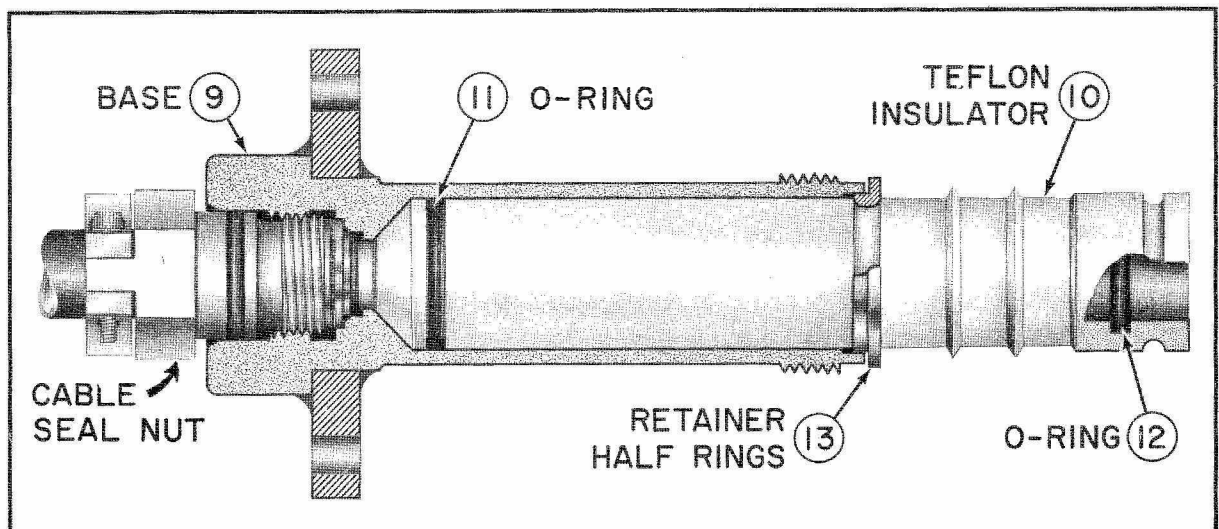
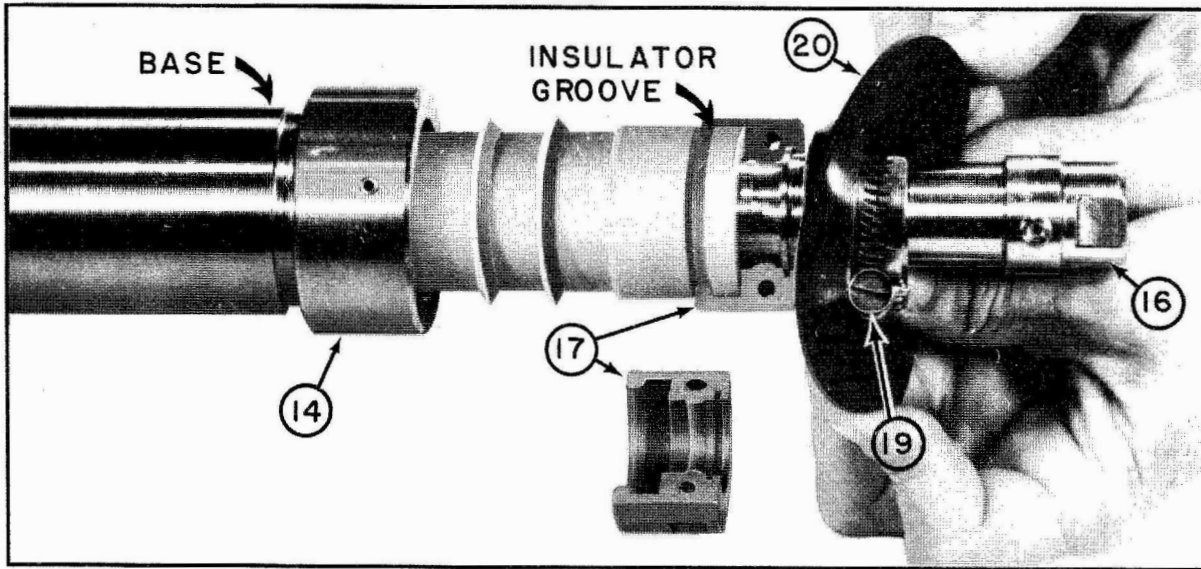

Figure 5-12e. Insulator Installed in Base
Figure 5-12f. Drip Shield and Center Conductor Installed
Step 4. - Screw lower collar, piece 14, onto the base, but do not tighten. Expand drip shield clamp, piece 19, by loosening the screw and place it over drip shield, piece 20. Place the drip shield on the locking collar, piece 21, and tighten the drip shield clamp screw. Slide this assembly on the center conductor rod, piece 16. Insert the center conductor rod into the insulator. Hold the cable seal nut assembly with a wrench and screw on the base, piece 9. A cut-away view of the assembly, figure 5-12e illustrates the retainer halves and insulator properly seated in the base. Do not permit the cable and cable seal nut to rotate. Place one of the insulator collar halves, piece 17, on the insulator and center conductor rod. The lower rounded lip on the collar should fit into the groove on the end of the teflon insulator. This is shown in figure 5-12f with the drip shield bent back. Now install the remaining half of the collar. Install the two collar screws, piece 18, and tighten with an Allen wrench. Tighten the lower collar on the base.